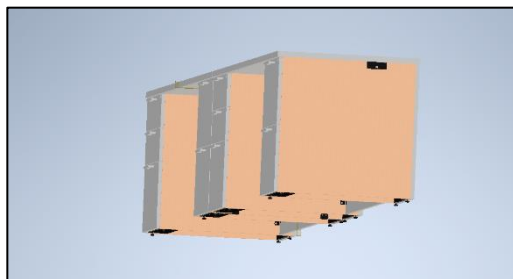

Figure 1
1. Position the two units being ganged so that they are flush on all sides (Figure 1)